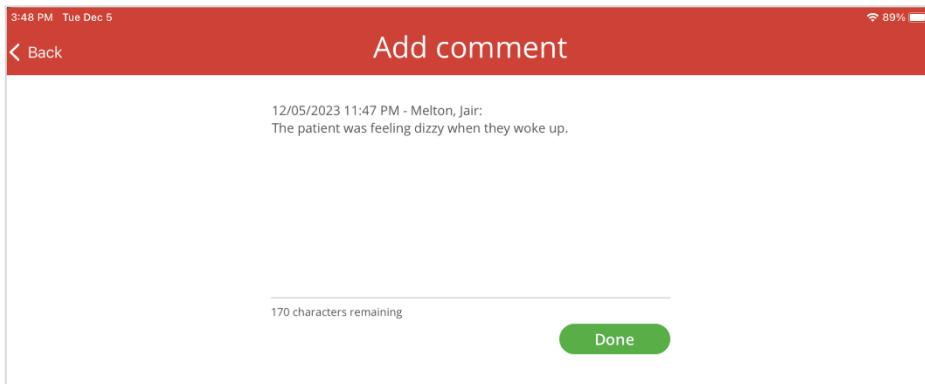

Figure 35: **Add comment** screen
2. Type the comment, up to 221 characters (Figure 35).